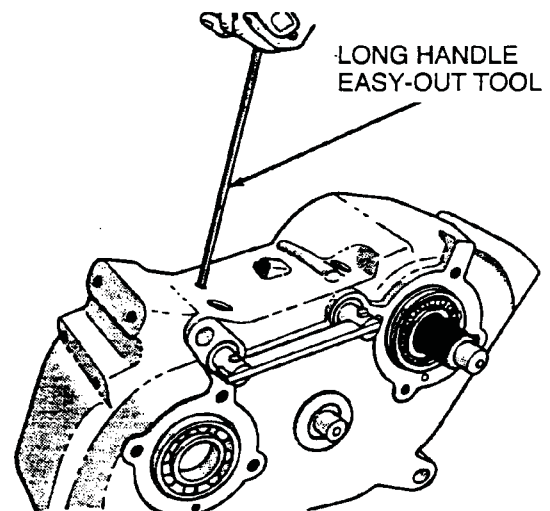

Fig. 2-6 - Remove Shift Fork Pins
12. Using a long-handle easy-out tool, remove shift fork pins (Fig. 2-6).